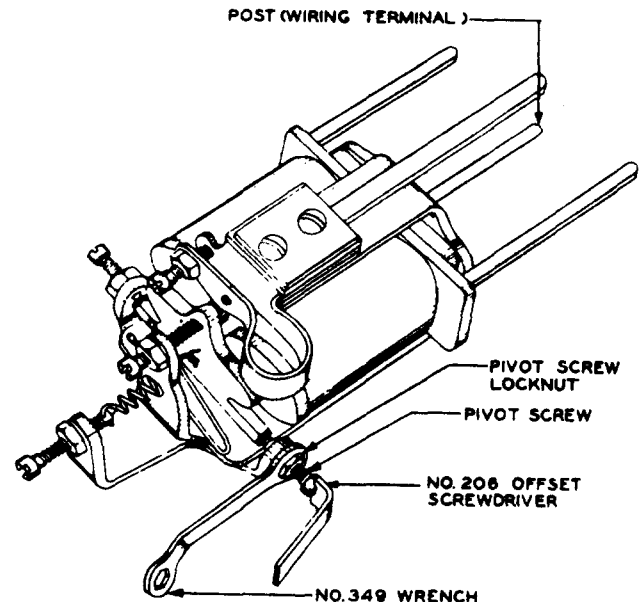

Fig. 5 - Method of Tightening Locknuts
- (1) To tighten loose mounting screws, use the 4-inch regular screwdriver.
- (2) If the cores are loose, remove the relay from the mounting plate, and in the case of 213-type relays, remove the cover spring assembly. Tighten the screws in the cores with the 3-inch cabinet screwdriver.
- (3) If the post (wiring terminal) shown in Fig. 5 is loose, tighten it by grasping the round portion with the P-long-nose pliers and turning it until it is secure in the frame. Do not grasp the post at the flat portion because the sharp edge of the pliers may shear off the wire.
- (4) After mounting a relay or tightening loose mounting screws, check the unoperated armature gap and the separation between the armature disc and backstop screw and if necessary readjust as outlined in 3.08 to 3.12.
- (1) To tighten loose locknuts, except the pivot screw locknuts, use the smaller end of the wrench portion of the No. 48 combination wrench and screwdriver holding the screws in position with the screwdriver portion.
- (2) To tighten the pivot screw locknuts, use the No. 349 wrench holding the screws in position with the Nos. 206 and 207 offset screwdrivers as shown in Fig. 5.
- (5) To facilitate meeting the electrical requirements, it is desirable that the sideplay of the armature be kept as small as possible.
- (6) If it is necessary to readjust for armature movement, replace the armature and pivot screws with pivot screws having hexagon heads and proceed as outlined in (7). Then proceed as outlined in (10).
(7) Loosen the right-hand pivot screw locknut with the No. 349 wrench enough to permit turning the pivot screw with the fingers. Turn the pivot screw out until there is a noticeable sideplay of the armature. Then turn the pivot screw in with the fingers a little at a time until the sideplay is entirely eliminated, and tighten the locknut finger tight. Then while holding the screw and locknut as shown in Fig. 5, back off the pivot screw approximately 15 degrees (equivalent to 1-1/4-inch movement at the hand end of the Nos. 206 and 207 offset screwdrivers). Tighten the locknut while holding the pivot screw in place. A sideplay of approximately 0.001 inch is ideal. If the sideplay is not satisfactory, loosen the locknut with the No. 349 wrench and turn the pivot screw as required with the Nos. 206 and 207 offset screwdrivers and then tighten the locknut.